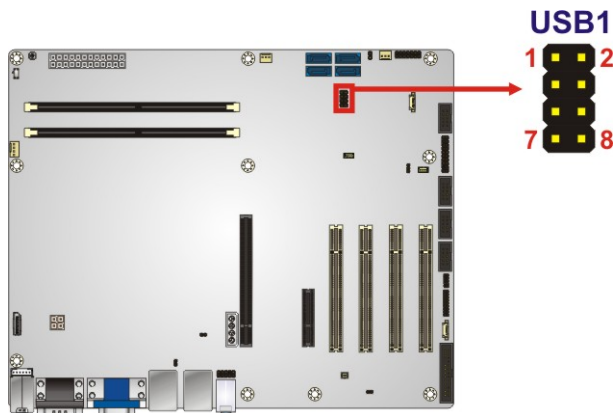

Figure 3-30: USB 2.0 Connector Pinout Location
- CN Location:** See **Figure 3-30**